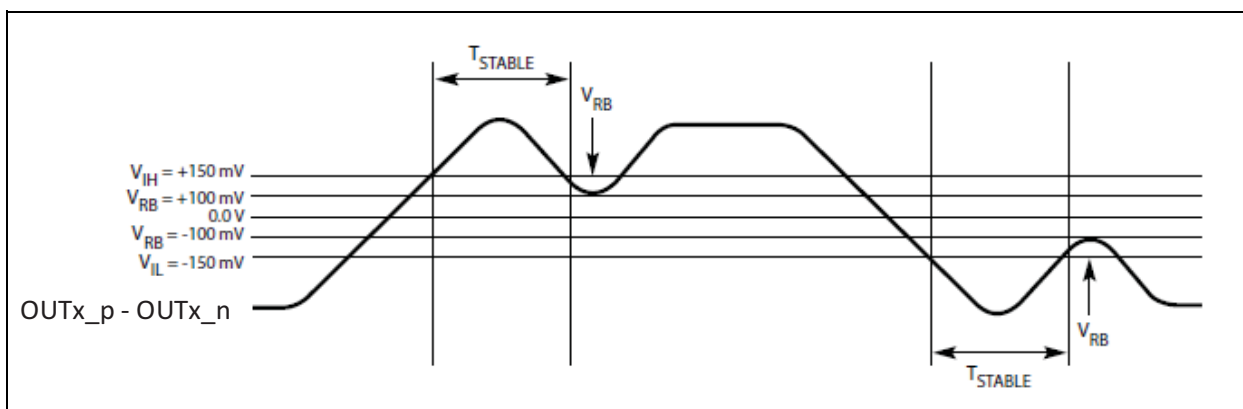

FIGURE 4-5: Differential Measurement Points for Ringback.
- 10:** TSTABLE is the time the differential clock must maintain a minimum ±150 mV differential voltage after 20 rising/falling edges before it is allowed to droop back into the VRB ±100 mV differential range. See Figure 4-5.